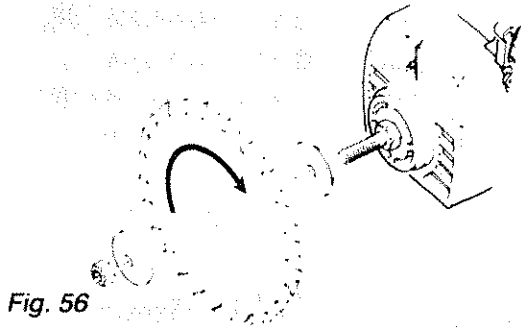

Fig. 56
2. Place the *blade* on the *arbor shaft* with a *blade collar* on each side. make sure that the directional arrow is on the outside of the *blade*, and the teeth are pointing down at the front side of the blade. (Figure 56)